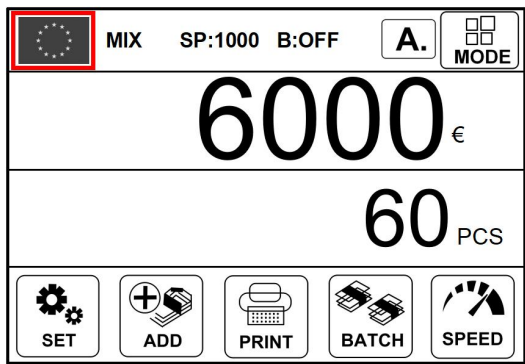

Figure 23
3) Take out the US dollars in the stacker, then put the Euro into the machine to count. The machine interface displays as follows at the end of counting: The flag in the upper left corner is identified as Euro. as shown in the following Figure 23.